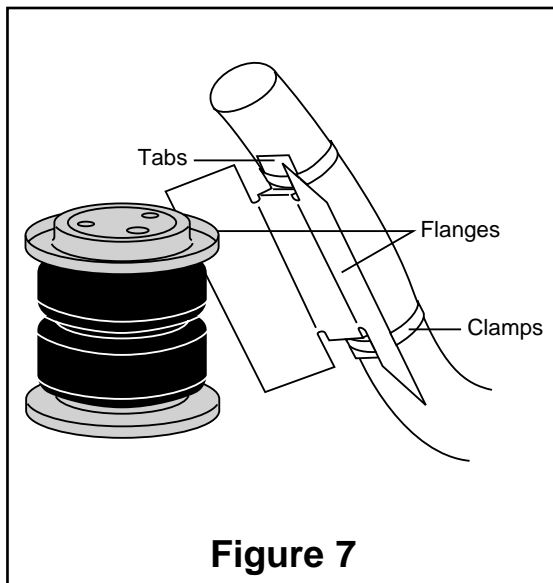

Figure 7
11. Installation of this kit requires an exhaust heat shield (Figure 7). The shield is attached with the stainless steel clamps to the exhaust pipe, with the flanges being bent inward. Shield may be trimmed or bent to attain component clearance. Bend tabs to provide 1/2" dead air space between exhaust pipes and heat shield and maximum clearance with bellows.